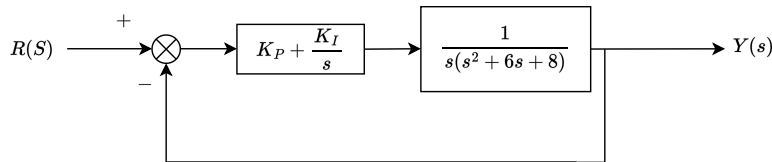

Figure 2: A control system with a PI controller
2. A control system with a PI-controller is shown in Figure 2. (10')